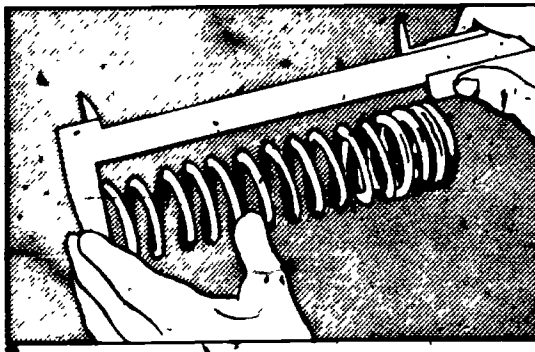

Figure 3
- F. Measure the cushion spring for. (Figure 3)